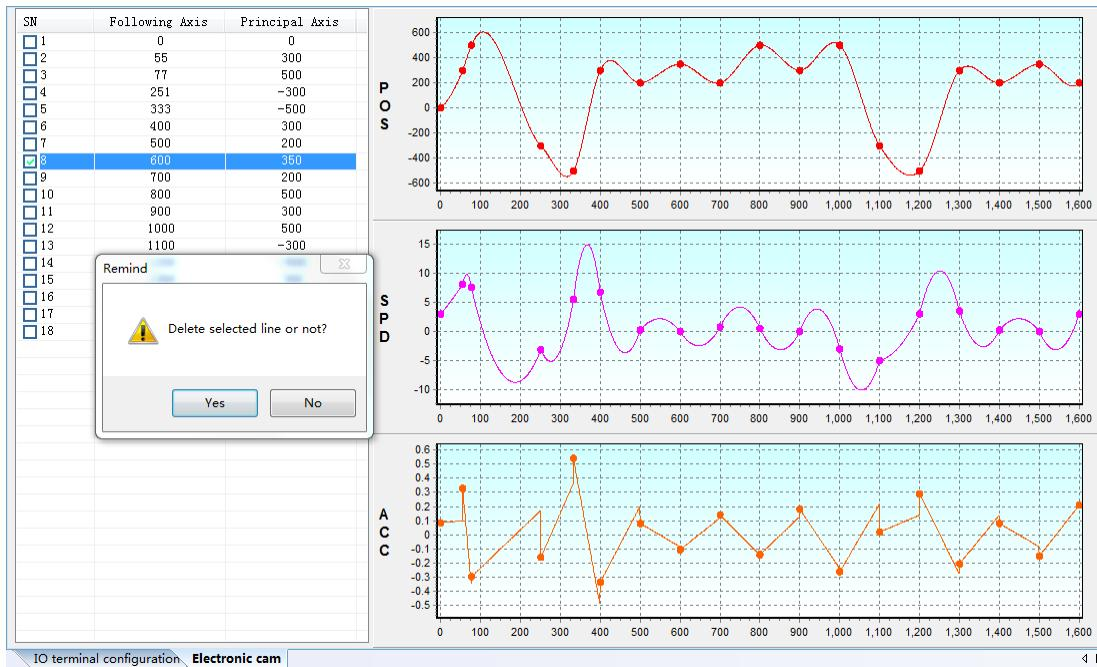

Fig 3-2-17 Delete multi-row
(2) Delete selected row: click serial number box to select row, right click to select [Delete number-selected row], click [YES]. (Fig 3-2-17)